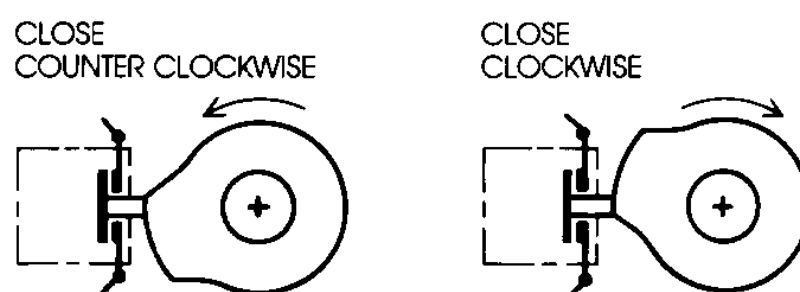

Fig. 6 Setting the OPENING limit switch.
- Set the OPENING limit switch (2nd red cam from the top) as shown in Fig. 6. Make sure to tighten the hand nut at the bottom of the auxiliary switches after setting the opening limit switch.